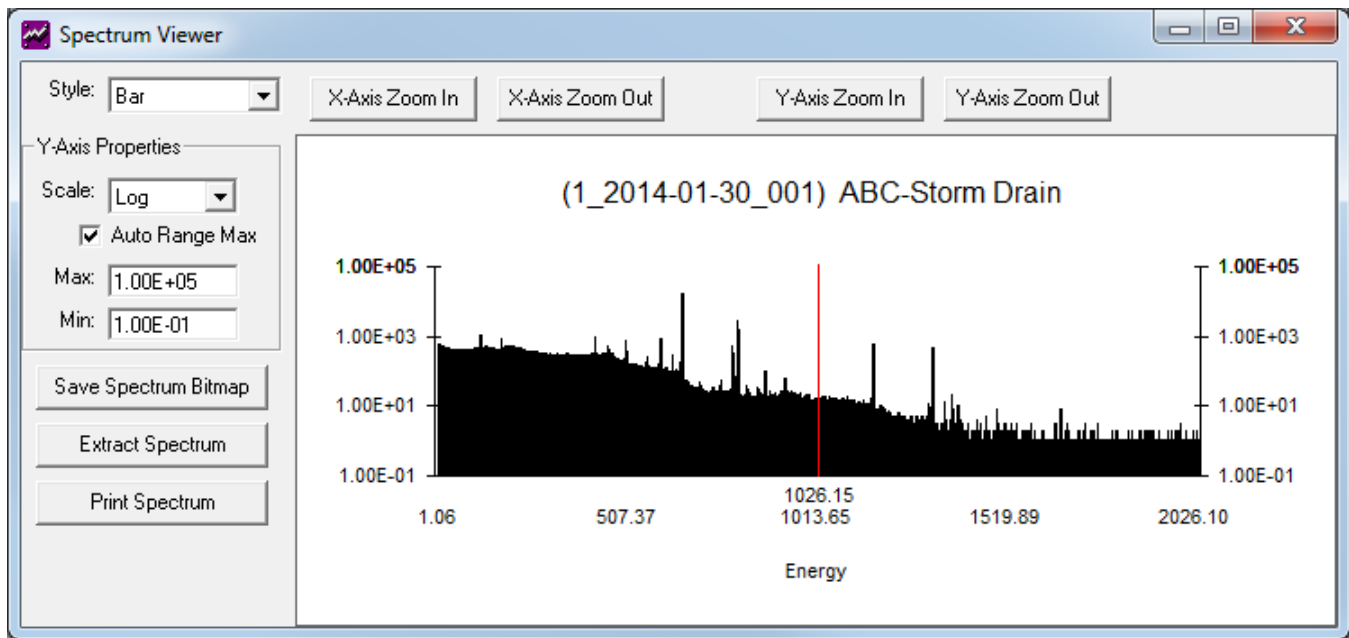

Figure A.2.2.1.2 Spectrum Viewer
- 3) **View Spectrum:** This option displays the interactive spectrum viewer shown in Figure A.2.2.1.2 with data plotted as a Bar Chart, Line Graph, or Points. The spectrum can be zoomed in and out using the buttons above the spectrum window or through keyboard shortcuts where F5/F6 and Up/Down arrow keys zoom horizontally, and the F7/F8 keys zoom vertically similar to GammaVision. The vertical scale can also be viewed in Log or Linear scale with automatic or manual range settings. After setting the desired view an image of the spectrum can be saved to a Bitmap file or printed. The full spectrum file can also be extracted from the database and saved to a file for use directly in GammaVision.